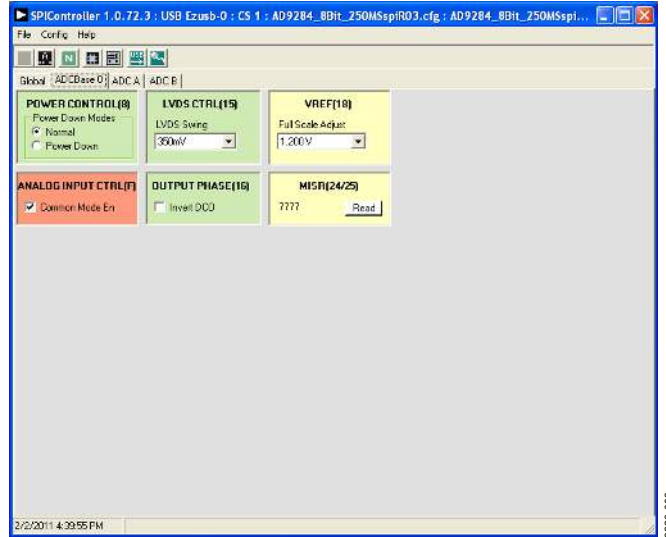
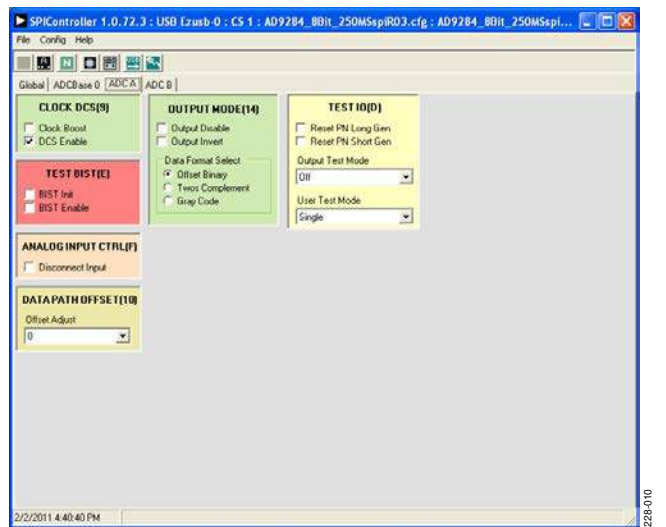

Figure 9. SPIController, ADC Base 0
Figure 10. SPIController, ADC A Page
3. In the **ADCBBase 0** tab of the **SPIController** window, you can access all global register settings (see Figure 9). See the AD9284 data sheet; the AN-878 Application Note, *High Speed ADC SPI Control Software*; and the AN-877 Application Note, *Interfacing to High Speed ADCs via SPI*, for additional information.
4. Note that other settings can be changed on the **ADCBBase 0** page (see Figure 9) and the **ADC A** and **ADC B** pages (see Figure 10) to set up the part in the desired mode. The **ADCBBase 0** page settings affect the entire part, whereas the settings on the **ADC A** and **ADC B** pages affect the selected channel only. See the AD9284 data sheet; the AN-878 Application Note, *High Speed ADC SPI Control Software*; and the AN-877 Application Note, *Interfacing to High Speed ADCs via SPI*, for additional information on the available settings.